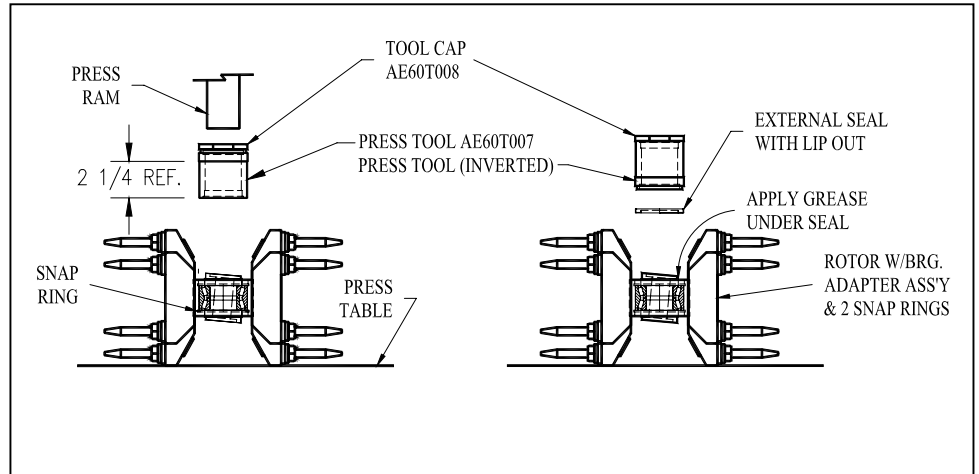

Figure 11. Rotor Assembly
1. With a pry bar remove the external seals (see Figure 11) on both sides. Generally, seals are damaged and are not reused.